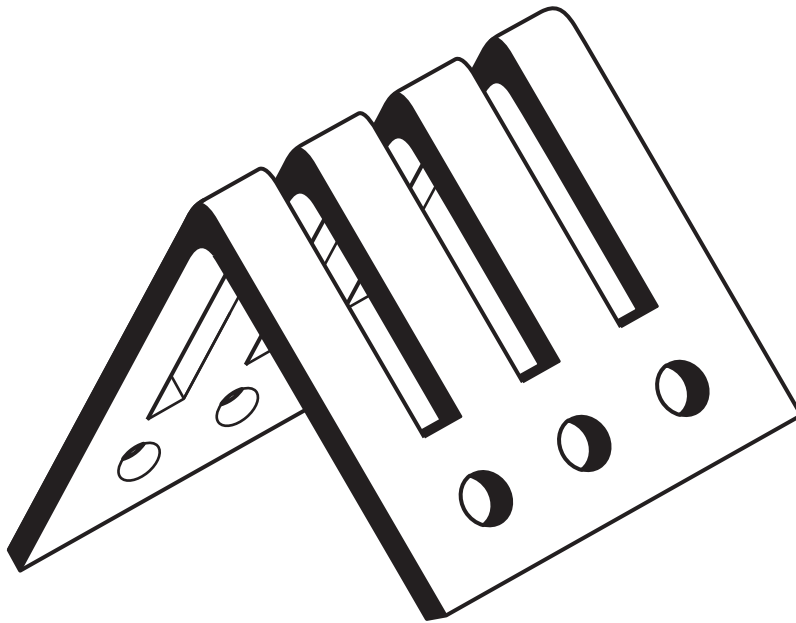

Fig. 8
Fig. 8 shows a toast rack to be used in a chain of hotels.
(a) Give **FOUR** justified design requirements for the toast rack to be used in a chain of hotels shown in Fig. 8.
(e) (i) State a SUITABLE SPECIFIC MATERIAL for the toast rack shown in Fig. 8 and give TWO properties or characteristics that make the material suitable for this use.
- (ii) Describe, in detail, how the toast rack shown in Fig. 8 would be manufactured as a batch of 50,000. Include details of specialist tooling used. Use a flowchart and/or annotated diagrams to support your answer.**